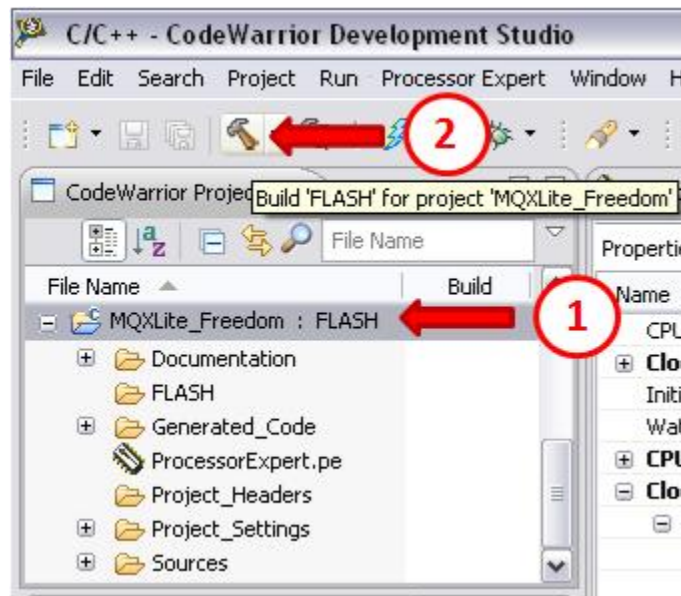

Figure 24. Compiling the project
4. It is necessary to compile the project to verify that there are no errors while using the generated code. To compile the project go to the CodeWarrior Projects window. Click in the Project name and then click in the compile button. See Figure 24 for the steps.